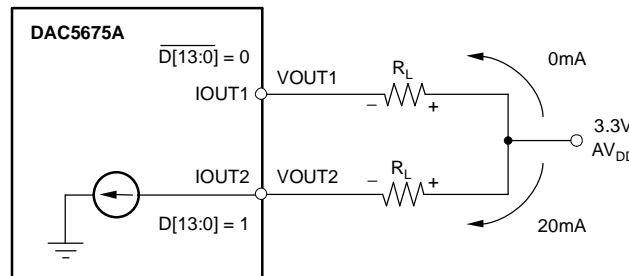
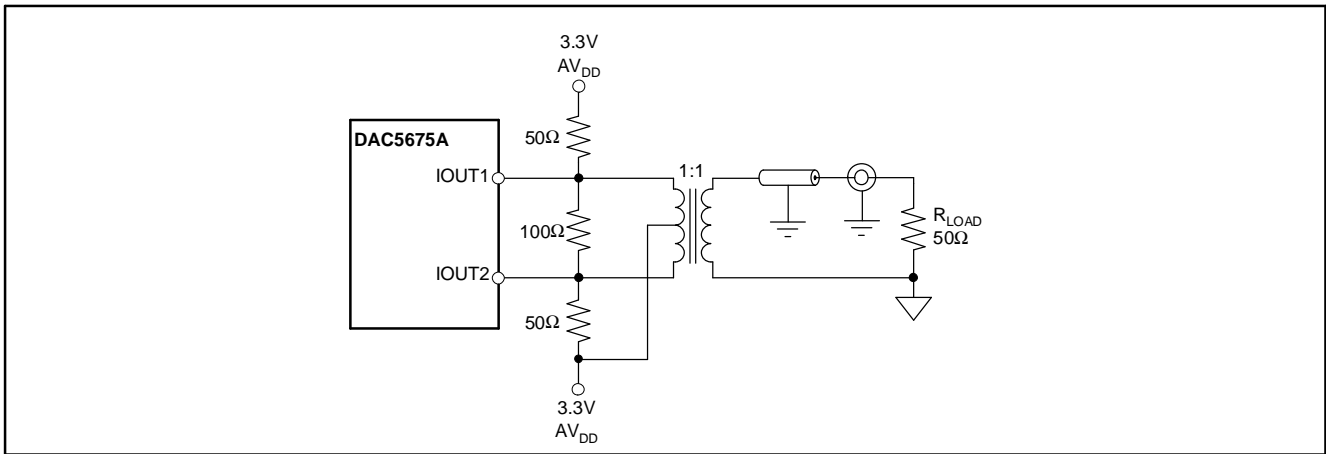

Figure 21. Relationship Between D[13:0], IOUT1 and IOUT2
**Figure 22. Equivalent Analog Current Output**
The output current flow in each pin driving a resistive load can be expressed as shown in Figure 21, as well as in Equation 2 and Equation 3.
Figure 22 shows a simplified schematic of the current sink array output with corresponding switches. Differential NPN switches direct the current of each individual NPN current sink to either the positive output node IOOUT1 or its complementary negative output node IOOUT2.  $D[13:0]$  controls the S(N)C current switches and  $\overline{D}[13:0]$  controls the S(N) current switches, as explained in the previous *DAC Transfer Function* section (see Figure 21). The output impedance is determined by the stack of the current sinks and differential switches, and is  $> 300k\Omega$  in parallel with an output capacitance of 5pF.